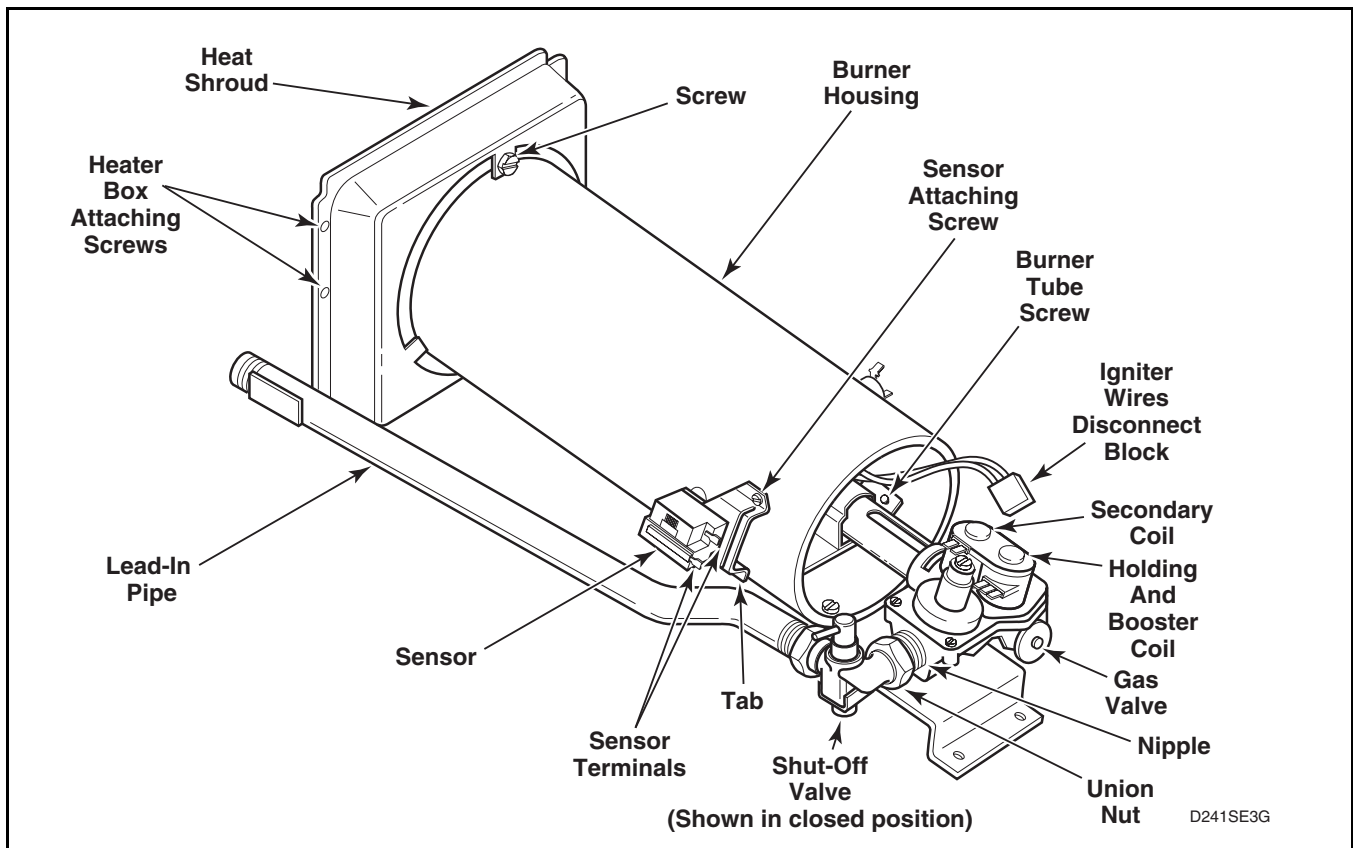
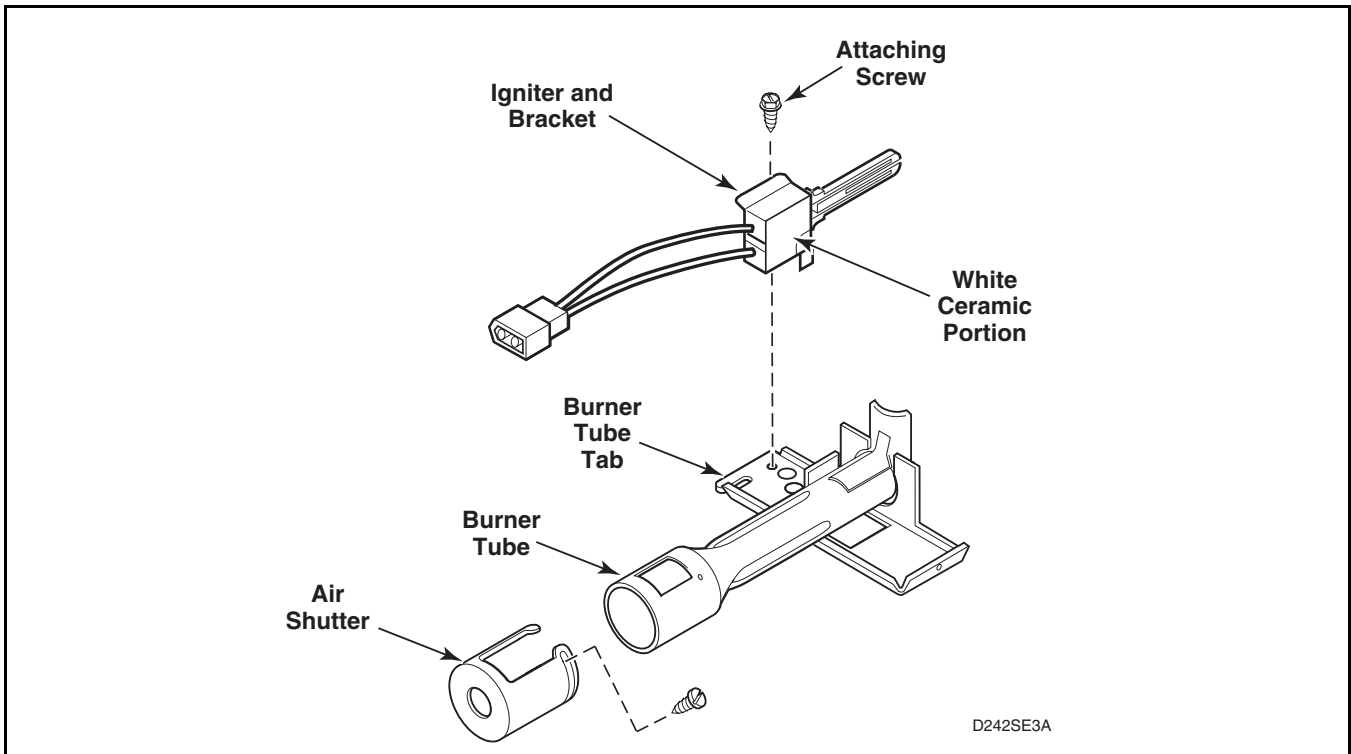

Figure 37
Figure 38
from gas valve coils at the quick disconnect blocks. Refer to *Figure 37*.
- (2) Disconnect gas shut-off valve from gas valve at the union nut. Refer to *Figure 37*.
- (3) Remove three screws holding valve and mounting bracket to base. Refer to *Figure 37*.
- (4) Lift gas valve and mounting bracket from base. Refer to *Figure 37*.
- (2) Gently move burner tube toward rear of dryer to disengage tab from slot on left side of burner housing. Refer to *Figure 37*.
- (3) Carefully rotate burner tube and igniter **counterclockwise** so tab is at 8 o'clock position.
- (4) Move air shutter end of burner tube slightly to right and **CAREFULLY** remove burner tube and igniter assembly out through front of dryer.
- (5) Remove screw holding igniter and bracket to burner tube and remove igniter and bracket. Refer to *Figure 38*.
- (1) Remove wires from sensor terminals. Refer to *Figure 37*.
- (2) Remove screw holding sensor to burner housing. Refer to *Figure 37*.
- c. Disconnect igniter wires at disconnect blocks, sensor wires from sensor terminals, and wires from gas valve coils at the quick disconnect blocks. Refer to *Figure 37*.
- e. Gently move burner tube toward rear of dryer to disengage tab from slot on left side of burner housing. Refer to *Figure 37*.
- h. Remove screw holding burner housing to heat shroud. Refer to *Figure 37*.